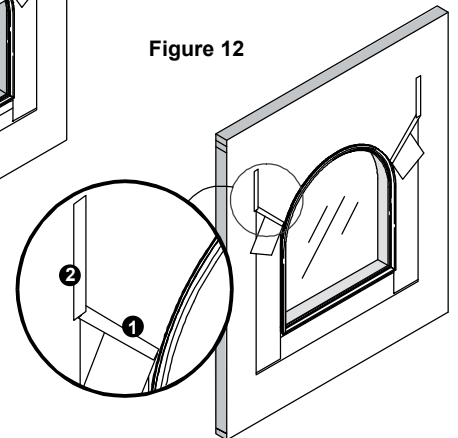

Figure 12
Lower the head weather barrier flap, previously taped out of way (fig.12), over the head flashing.
Use sheathing tape to seal the cuts made in the weather barrier when the flap was made. The diagonal cut should be taped first ① and then overlapped by a second strip ② which will cover the vertical cut. Repeat this procedure on the opposite side of the window (fig. 12).